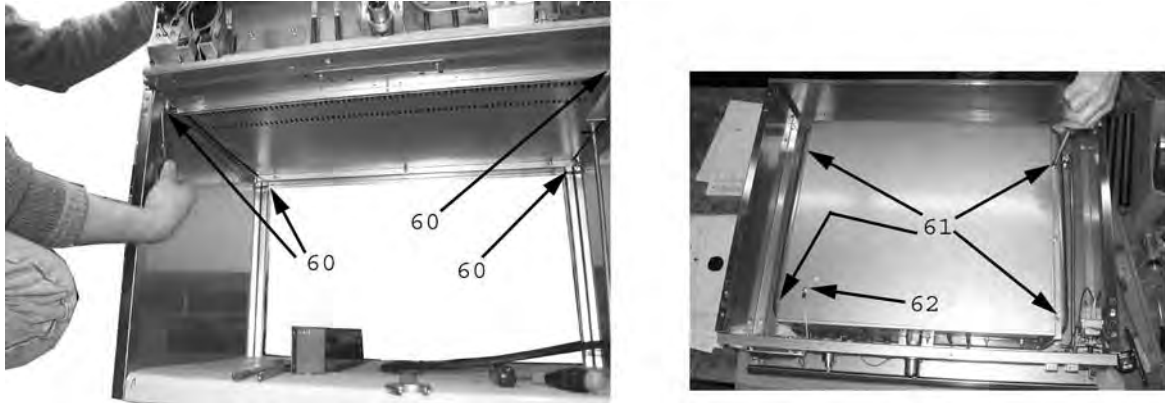

Fig. 19
- unscrew the screws shown as item 60 in Fig. 19 and overturn the upper part of the bain-marie;
- unscrew the screws shown as item 61 in Fig. 19;